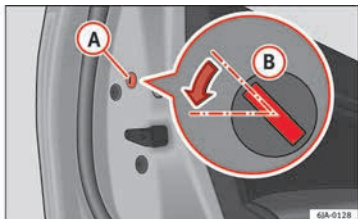

Fig. 4 Rear door: manual locking
- Remove the cap »»» **Fig. 4.**